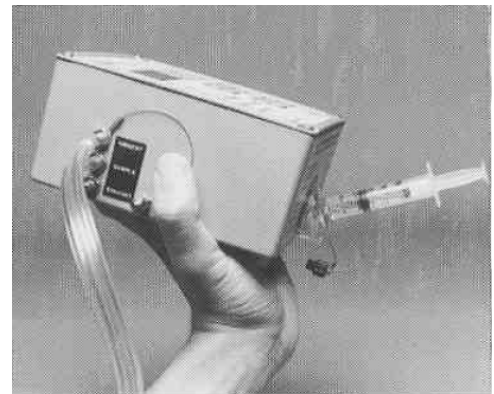

Figure X-5. Inserting the syringe
Step 4. Insert the end of the syringe into the alcohol fill port on the PORTACOUNT. Make sure the syringe is inserted at the correct angle. The syringe will remain in place without support if the angle is correct (fig. X-5).